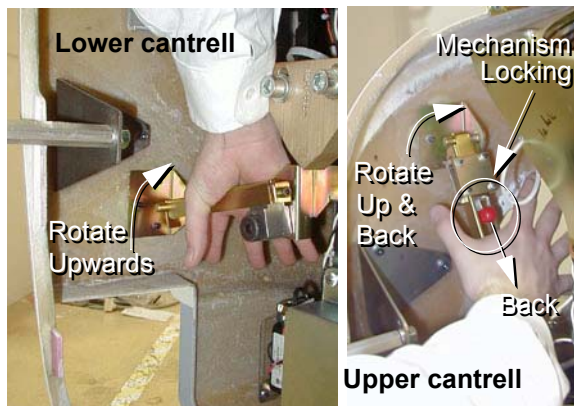

Figure A-9 Releasing cover brackets
- 1.) Using steady but firm pressure, lift each of the lower Cantrell brackets from their associated retainers (see Figure A-9).